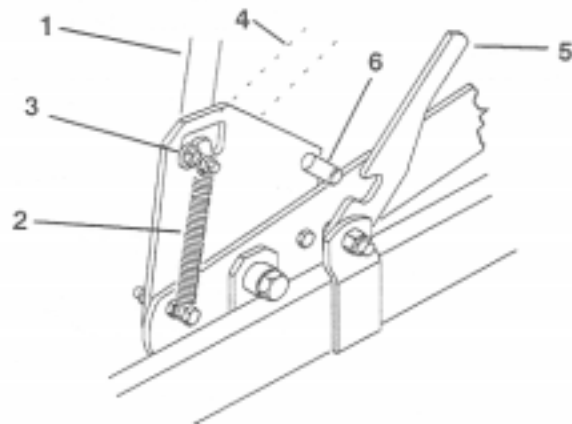

Figure 12
1. The handle is tensioned with a spring and moves forward and backward over a cam. You must lift up on the handle to move it over the cam. The forward position is for transport and the rear position is for operating (Fig. 12).
2. Move the handle to the transport position and pull backward to raise the blade. Lock the blade in transport by rotating both transport latches forward until they securely engage the pivot plate pins (Fig. 12).